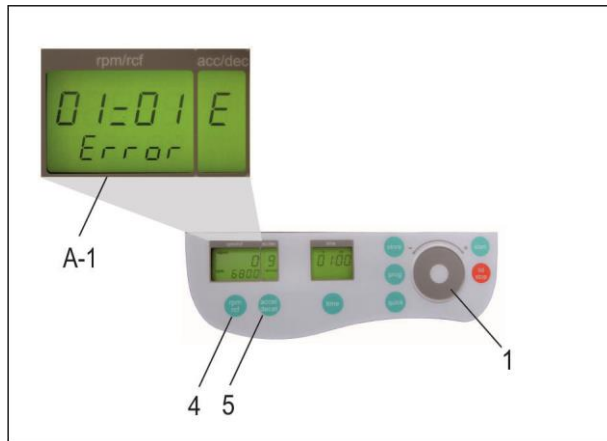

Figure 5
The list of the last 99 error messages can be looked over by pressing the key "rpm/rcf" (4) and leaf through it with the control field (1). The respective error codes appear in the display "rpm/rc" (A-1) (see Figure 5). The first two numbers indicate the appeared errors ongoing from 00 to 99, the last two numbers indicate the error code. Please refer to, Table 5: Error Messages, (see APPENDIX IV).